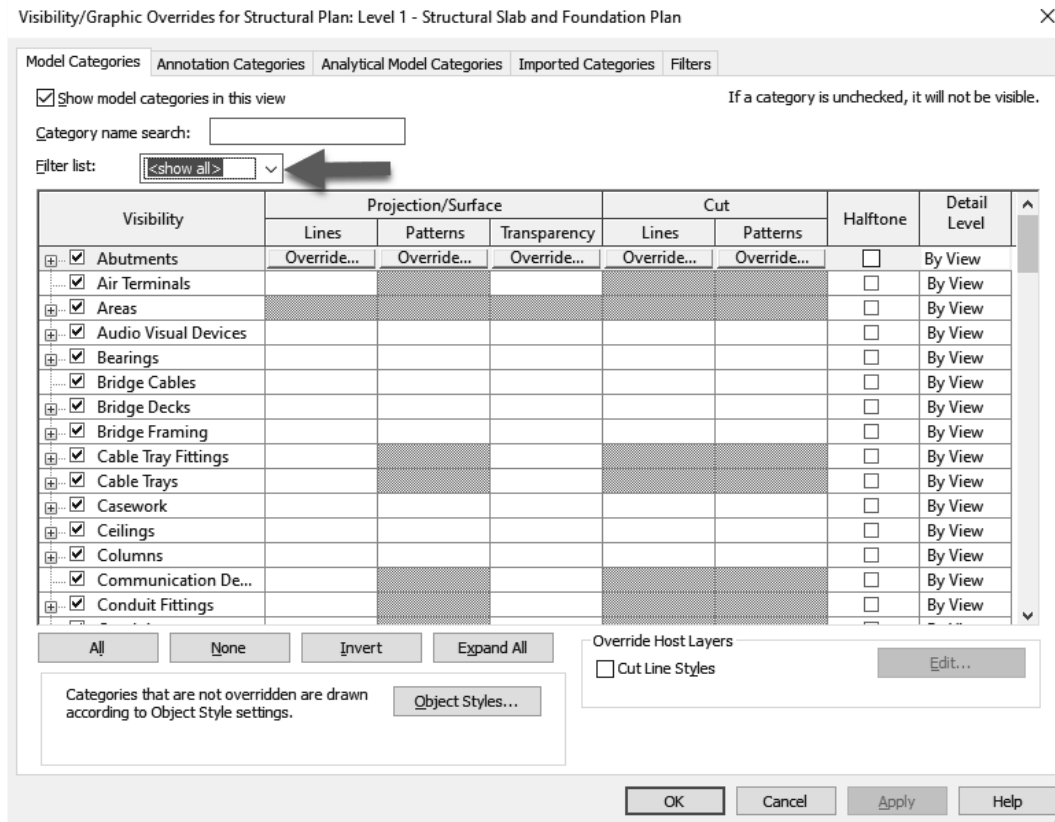

FIGURE 8-2.9 Visibility and Graphic Overrides – Structural Level 1
23. On the *Model Categories* tab, **check** all the disciplines in the *Filter list* drop-down (Figure 8-2.9).
The **Visibility/Graphics Overrides** dialog (Figure 8-2.9) also has a significant role in what shows up and what does not in a view. The main thing to understand here is that the visibility of the items in these various categories can be controlled here for the current view, and only the current view. Unchecking *Casework* hides all the items that exist within that category, such as base and wall cabinets and custom casework such as reception desks, assuming they have been created with the correct *Category* setting. The *View Template* you are about to apply to this view will uncheck many of these *Categories*.